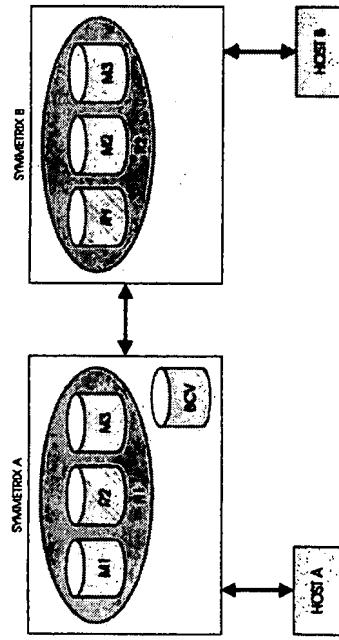

Figure 10. SRDF System
If the Business Continuance Volumes (BCVs) are used in conjunction with source (R1) devices (see Figure 10 for a sample SRDF system), all Business Continuance (BC) processes operate in the manner described in Chapter 3, with the clarifications provided in the following sections.
In order to maximize the efficiency of the copy operation, Symmetrix copies the data locally from the standard device mirrors (M1 and M3 in Figure 10), unless problems or data unavailability necessitates obtaining the data from the target (R2) device in the Symmetrix unit attached to host B.